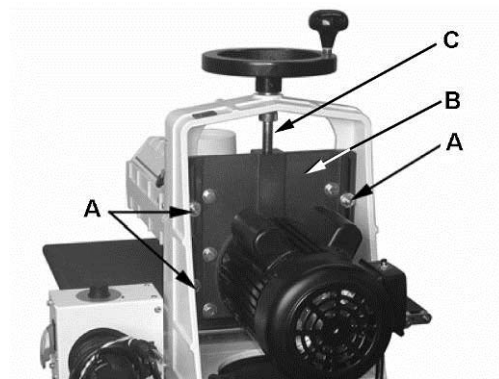

Figure 26
1. Tighten all four lock nuts (A, Fig. 26) and then loosen them 1/8 to 1/4 turn. If the lock nuts are set too tight, height control will not operate easily. If the lock nuts are too loose, excessive deflection of the outboard end of the drum carriage will result.
2. Thoroughly lubricate the mating surfaces of the motor mount slide (B, Fig. 26), and the height adjustment screw (C, Fig. 26).